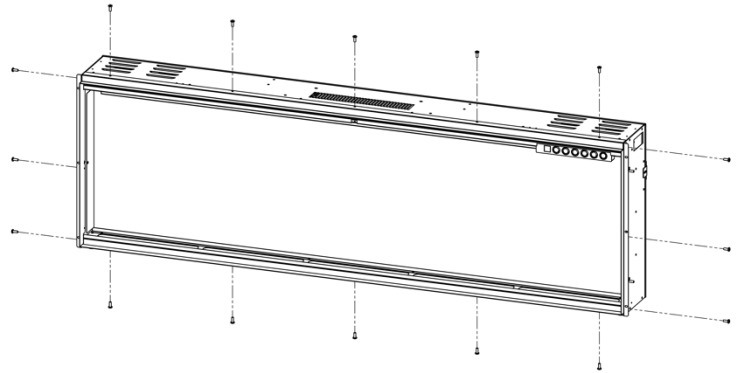

Fig. 4-4
- Install the Built-In Frame and attach with the screws previously removed (Fig. 4-4)